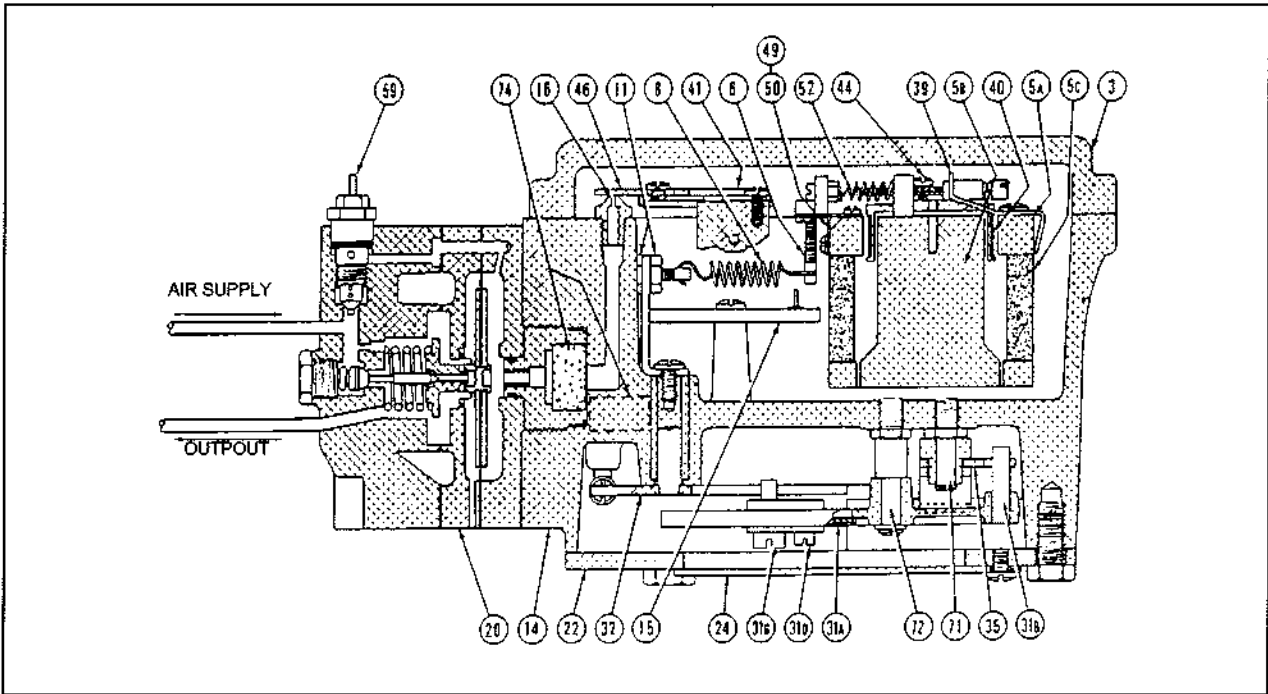

Figure B3 - Positioner w/o cam
2.2 Calibration of the positioner without cam (figure B3)